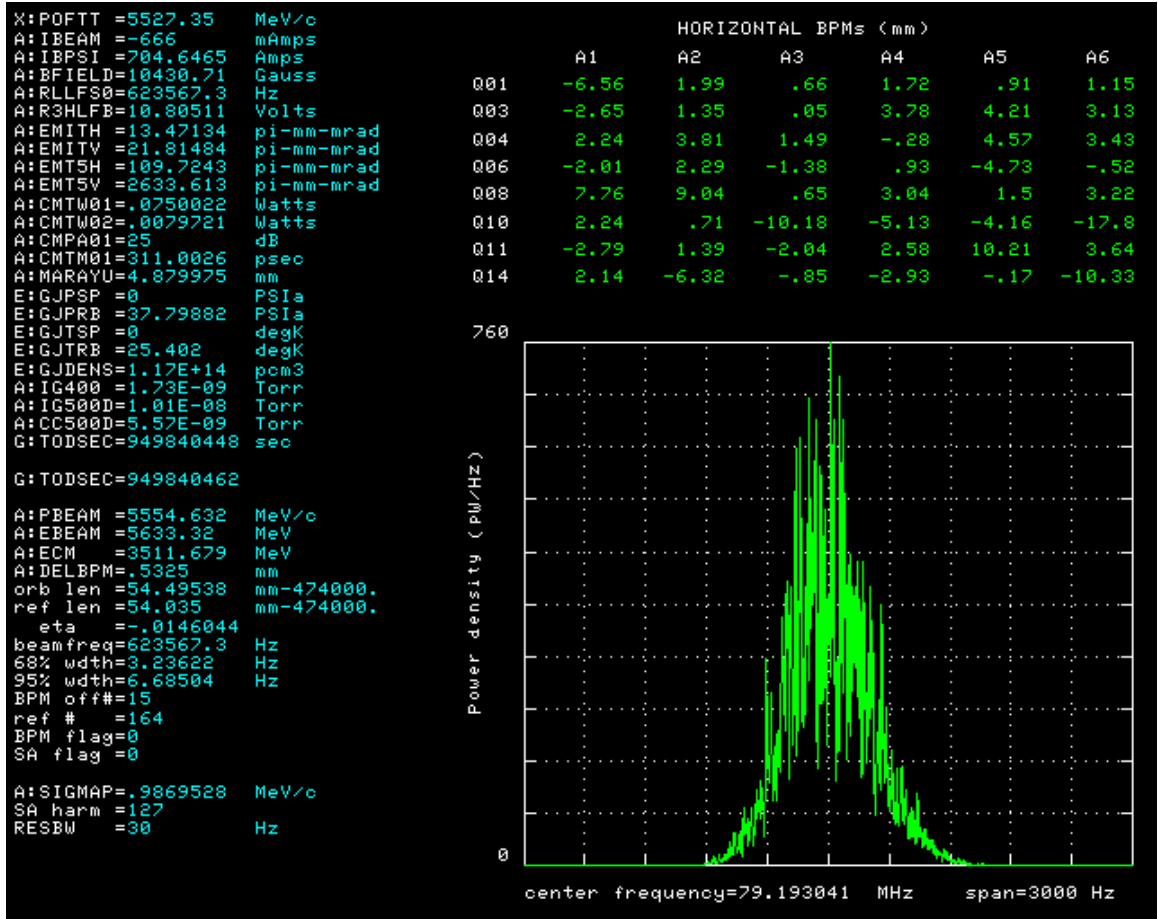

Figure 1: Example of P77 data display.
Table 1: ACNET data sent by P77 to the E-835 DAQ (individual BPM readings and SA measurements not included). An error status shows up in the P77 data display (Figure 1) as a value of -666 for the device in error.
**The P77 data display** A check of the integrity of the ACNET data is the P77 data display (Figure 1). On the left side it has a list of devices, whose meaning is explained in Table 1 (devices in error are shown with a value of –666). A list of quantities calculated by P77 itself is also shown in the left column. On the right side, the horizontal BPM readings are listed, below which the latest SA profile is plotted. This data display can be dumped to screen from the console running P77 (usually at AP-10 or in the MCR) and sent to the AP-50 printer upon request. This is normally done at least once after each deceleration.